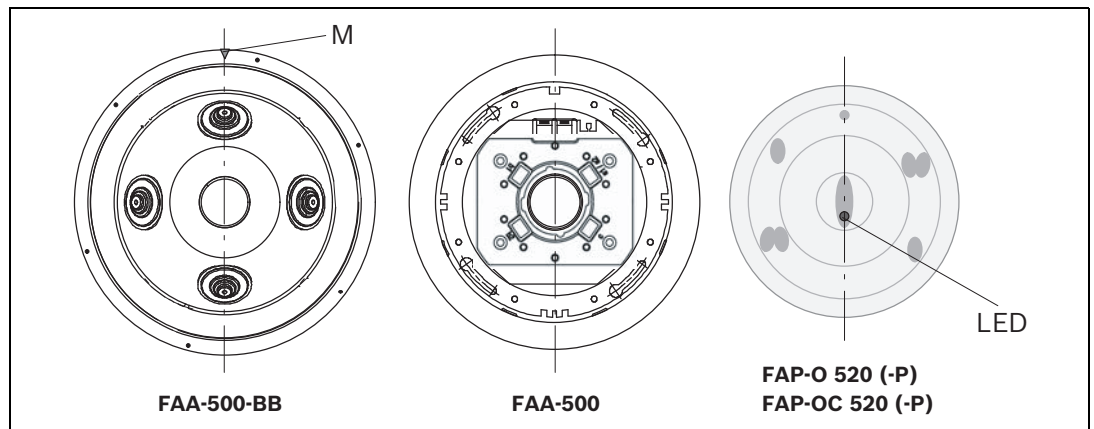

Figure 3.3 Alignment of ceiling mount back box, base and detector
4. A triangular marking (see *Figure 3.3 Pos. M*) is impressed into the outer edge of the ceiling mount back box. Turn the ceiling mount back boxes so that all markings are in a line. In this way, the long, middle windows of the detectors will later appear in a line to give a harmonious overall visual effect.